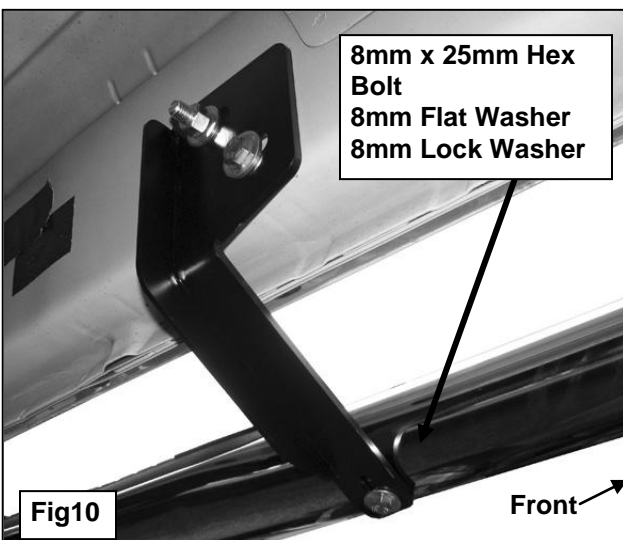

Fig10
12. Line up the Center Mounting Bracket with the threaded insert in the Sidebar. Insert (1) 8mm x 25mm Hex Bolt, (1) 8mm Lock Washer and (1) 8mm Flat Washer through the Center Bracket and into the threaded insert in the Sidebar. Slowly tighten the Mounting Hardware, **(Figure 10)**.